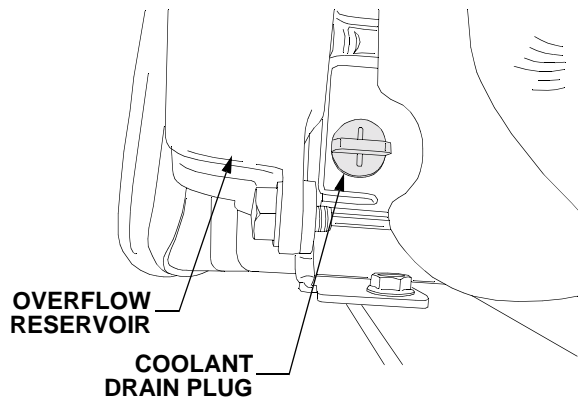

Figure 55
- Locate the radiator drain plug in the lower left rear corner of the radiator. See Figure 55.